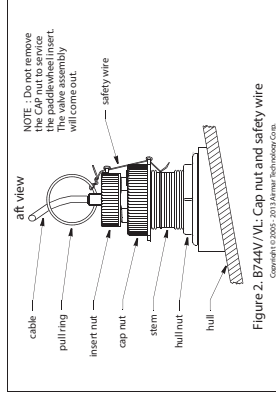

Figure 2. B744V/VL Cap nut and safety wire
Being sure the valve assembly is seated firmly within the housing, carefully screw the CAP nut in place (Figure 2). Hand-tighten only. Do not over tighten.
3. Attach the safety wire to prevent the insert from backing out in the unlikely event that the cap nut and/or insert nut falls or is screwed on incorrectly. Wrap one end of the safety wire tightly around the stem of the housing and twist it together with the long end (Figure 2). Keeping the wire taut throughout, lead the wire straight up and through one eye in the CAP nut. Thread the wire through the eye a second time. Lead the wire in a counterclockwise direction and thread it through the eye in the INSERT nut. Thread the wire through that eye a second time. Loop the wire through the pulling ring and twist the wire securely to itself.
2. Remove the paddlewheel insert from the housing by removing the safety wire from the pull ring and the INSERT nut (Figure 2). Unscrew the INSERT nut. Do not remove the CAP nut, as the valve assembly will come out.